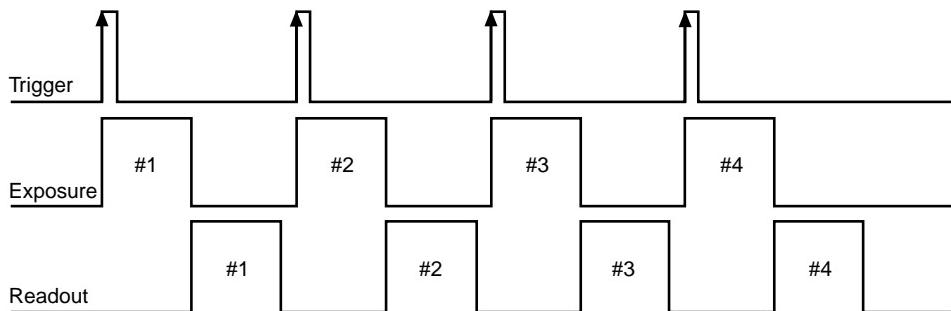

Figure 5. Strobe Mode Timing Diagram
- Strobe mode** In this mode, each frame in a sequence requires a trigger. Each frame is exposed for a length of time entered into the software and is then read out. If the trigger arrives during the exposure-readout of the previous frame, it is ignored (see Figure 5). For a sequence of one frame, strobe mode and trigger-first mode are the same.